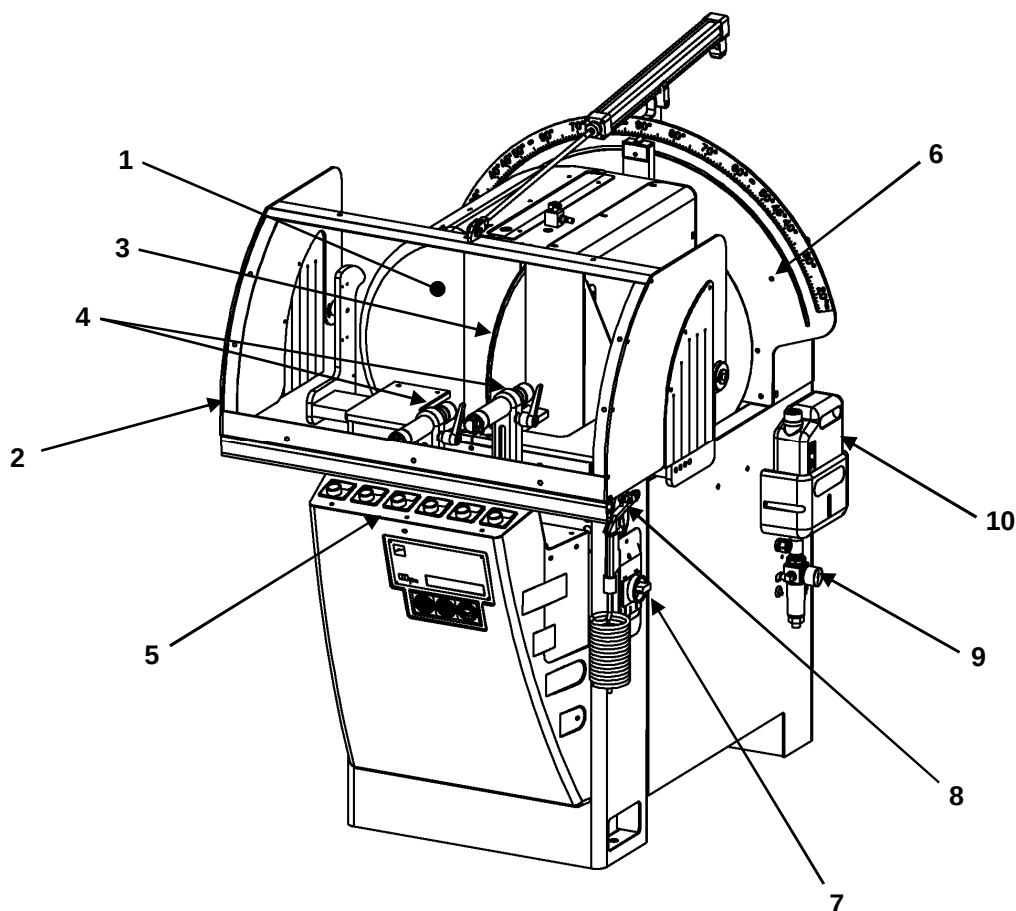

Fig. 03-01
3.3 ELEMENTS MACHINE VERSION DE BASE (Fig. 03-01)